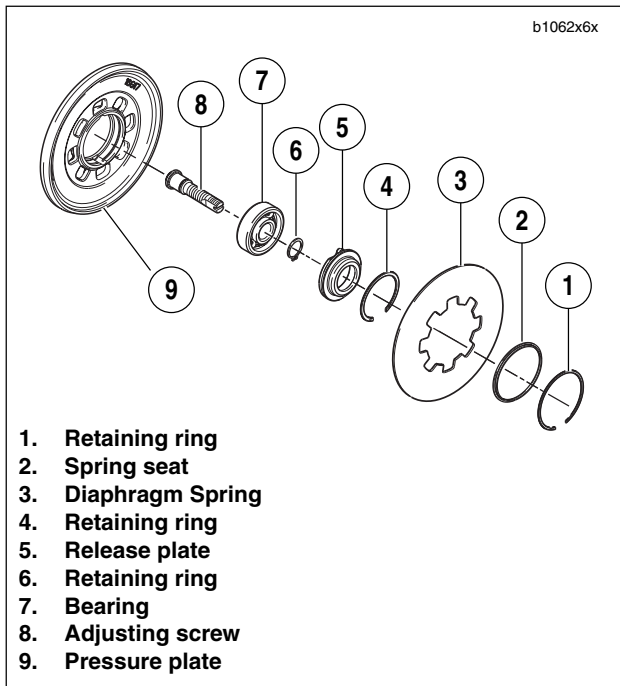

Figure 6-14. Adjusting Screw Assembly
1. See Figure 6-14. Remove adjusting screw assembly.
- a. Remove and discard small retaining ring (6).
- b. Separate the adjusting screw (8) from the bearing (7) and release plate (5).
- c. Remove bearing (7) from release plate (5).